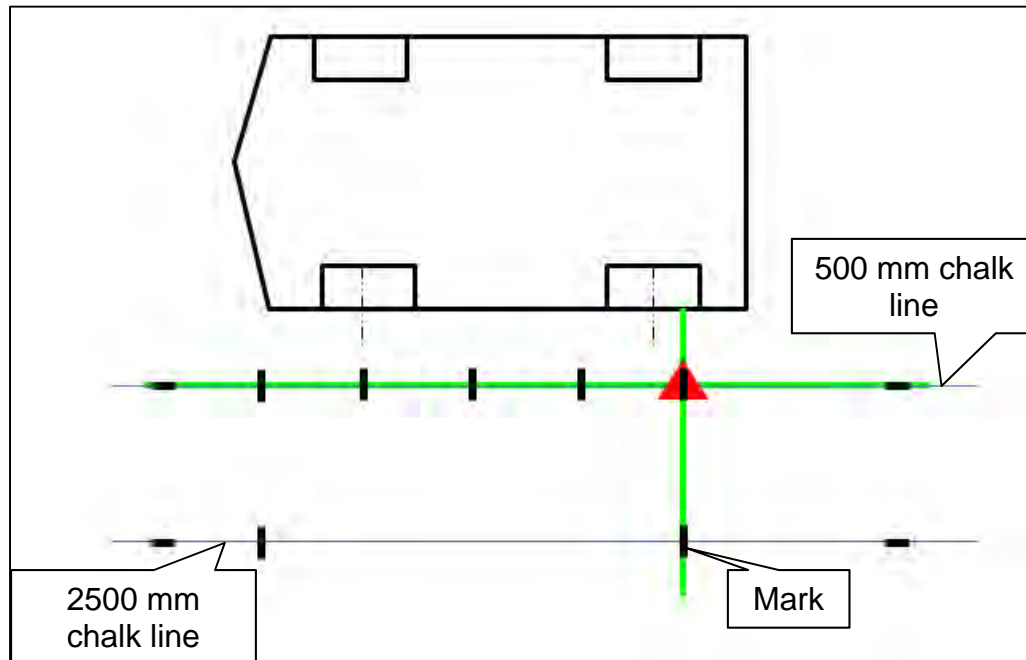

Figure 34
28. Move the laser level to the position shown in Figure 34, and then make a mark on the 2500 mm chalk line.